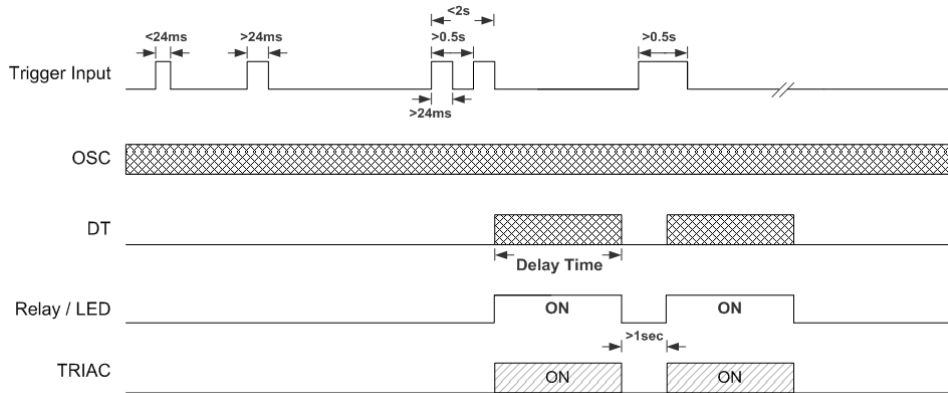

Fig.11 Trigger Timing
The effective input trigger signal width should be $\geq 24\text{ms}$. The output is valid either with (1) trigger signal width ≥ 0.5 seconds or (2) more than 2 effective trigger inputs within 2 seconds (separation of 2 triggers $\geq 0.5\text{s}$). And the separation time between two TRIAC(RELAY) turn-on time must be more than 1 sec. The trigger timing is shown as Fig.11.